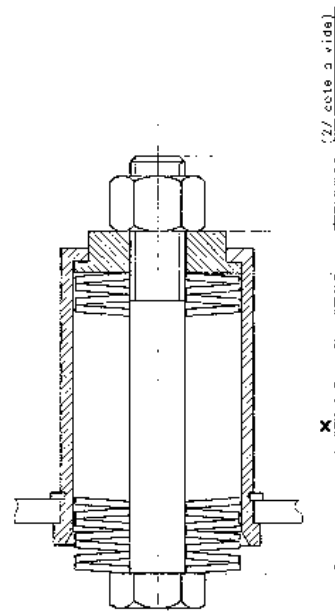

Figure 3
- If necessary, adjust the pre-stressing system by tightening the pre-stressing nut (13), so that the washers are 108 mm high (see figure 3).
- Put the platform into place, taking care to put the ball (10), nylatron washer (11) and stop (12) in the right places.
- Lubricate the bore and put the lower pivot (7) into place. Fix using the fixing screw (8) and washer (9).